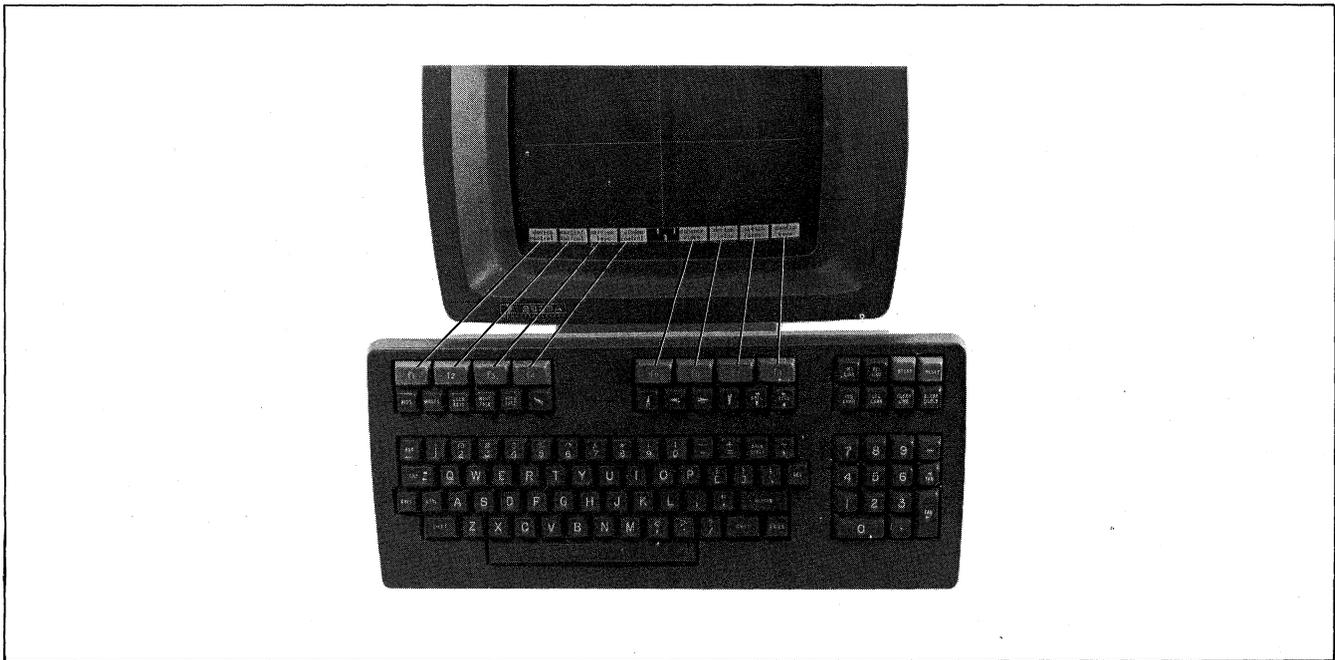

Figure 4-1. Screen-Labeled Function Keys
- **Function Key Group.** This group includes the eight keys labeled "f1" through "f8" and the keys labeled "AIDS", "MODES" and "USER KEYS". The f1-f8 keys are multipurpose keys in that the functions they perform vary from one situation to another. At any given time the applicable labels for the function keys are displayed across the bottom of the screen (figure 4-1).